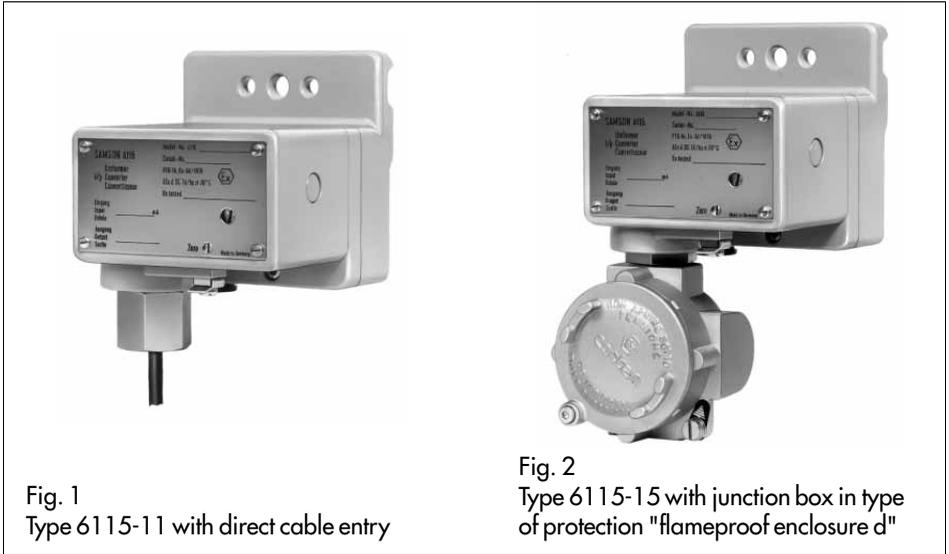
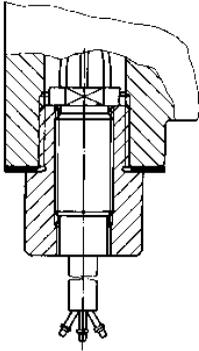

Fig. 1
Fig. 6.1
**Type 6115-11** (Fig. 1) · i/p converter, threaded conductor bushing with a cable of 3 m in length (Fig. 6.1) for direct cable entry according to DIN EN 50 018.